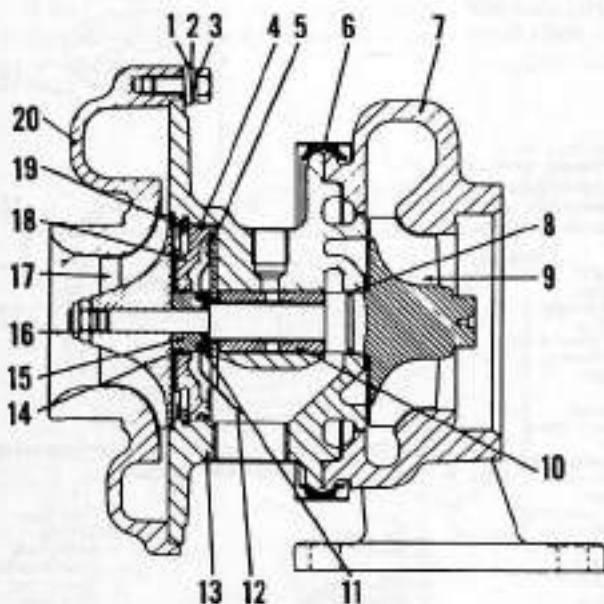

Fig. 76—Sectional view of Holset turbocharger showing component parts and their relative positions.
**BOCHARGER.** Remove turbocharger unit as outlined in paragraph 149. Mark compressor cover, center housing, turbine housing and clamp positions for reassembly. Remove clamp (6-Fig. 76) and lift core from turbine housing (7). Remove screws (3), then separate from compressor cover (20). Clamp a 5/8-inch 12 point wrench in vise, locate hub of turbine wheel (9) in wrench and remove nut (16). Carefully slide compressor wheel (17) from shaft. Turbine wheel and shaft (9) and bearing (10) can be removed from housing. Use snap ring pliers to remove large retaining ring (19), then pry insert (18) from housing bore. Remainder of parts can be lifted out. Oil deflector (12) and thrust plate (5) are located by two groove pins which should not be removed.
Use care to not over-expand ring (8-Fig. 76) when installing in groove. Lubricate turbine shaft (9) and ring (8), then assemble in bore of housing (13). Lubricate bearing (10), then install over turbine shaft and into housing bore. Lubricate thrust plate (5), then install in housing with bronze side up and holes engaging groove pins. Install thrust ring (11) over shaft and onto thrust plate, then position oil deflector over shaft and groove pins. Install ring (14) in groove of spacer sleeve (15), lubricate parts and slide spacer sleeve into bore of insert (18). Install "O" ring (4) in groove, lubricate outside diameter, then slide insert (18) with spacer sleeve (15) and "O" ring installed into bore of housing.